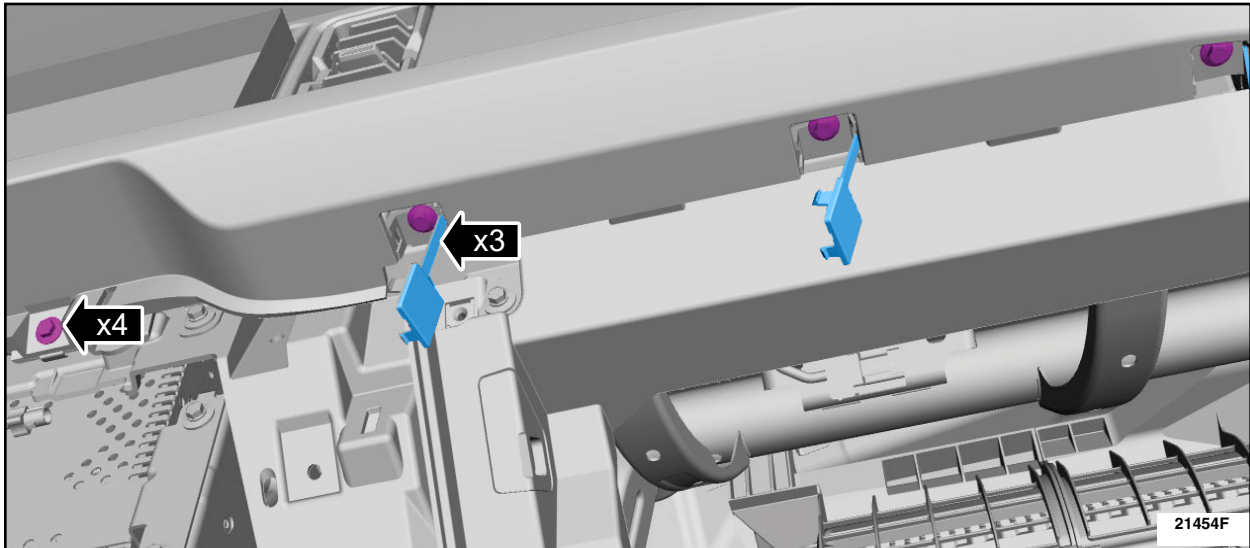

FIGURE 6
7. Disengage the access covers and remove the lower trim panel bolts. See Figure 6.